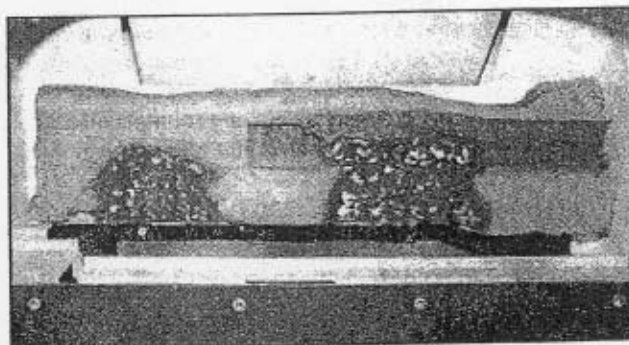

Figure 22 Positioning the Back Log
1. See Figure 22. Place the BACK LOG on the back plate, positioning it so the BACK LOG sits behind the tab on left side.